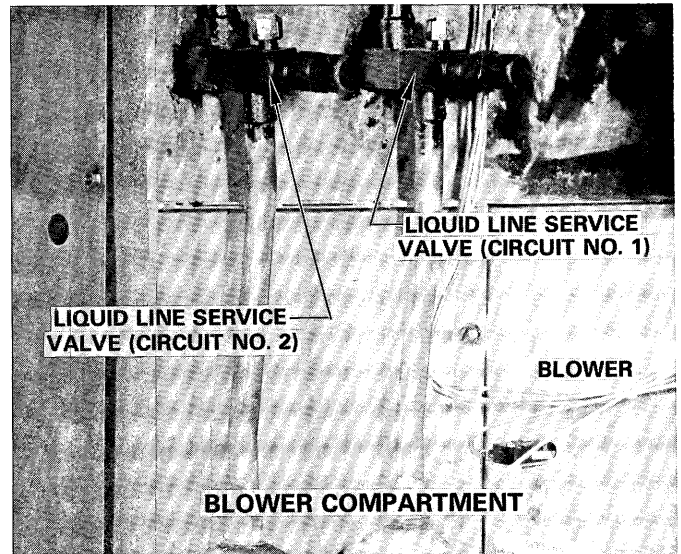
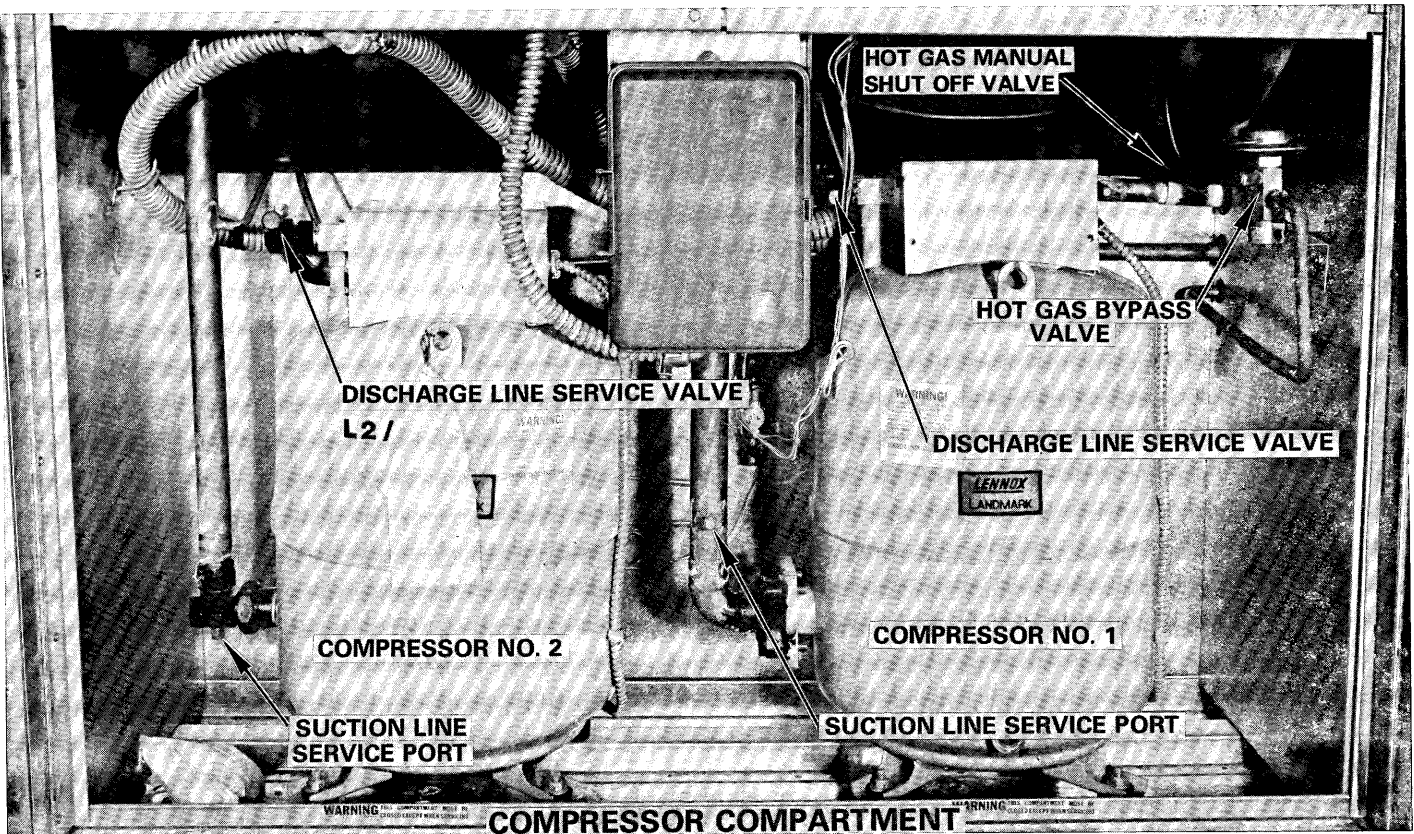

FIGURE 27
FIGURE 28
Refer to Figure 28 for component location and identification in the compressor compartment. Figure 27 shows the location of the liquid line service valves in the blower compartment.
The optional hot gas by-pass valve is located in the compressor compartment. Refer to Figure 28 and Table 4.
The hot gas system is also equipped with a manual main shutoff valve. See Figure 28. This valve should be closed during refrigerant circuit pumpdown and may be used for a manual shutoff of the hot gas system.
- 1 - Attach gauge manifold. Refer to Figure 28 for service valve identification.